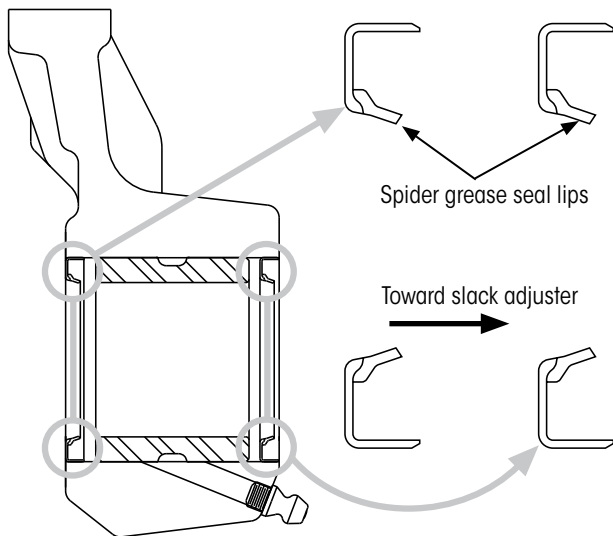

Figure 9: Spider grease seal orientation
**NOTICE:** The lips of both seals must face inward toward the brake chamber (Figure 9). This seal orientation directs any excess grease away from the brake shoes.
- B. **Apply grease** to the spider S-cam bushing and the S-cam support bushing assembly until new grease purges from the inboard seals. When the seals are correctly installed, grease will purge from the inboard side of the bushing, away from the brakes and toward the slack adjuster (Figure 9 on page 12).